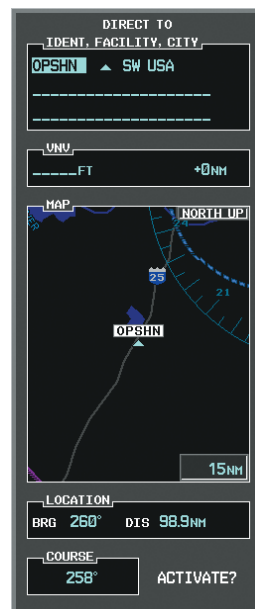

Figure 5-118 Direct To OPSHN
- Press the **Direct-to** (**D>**) Key. The Direct-to Window is now displayed as shown in Figure 5-118.